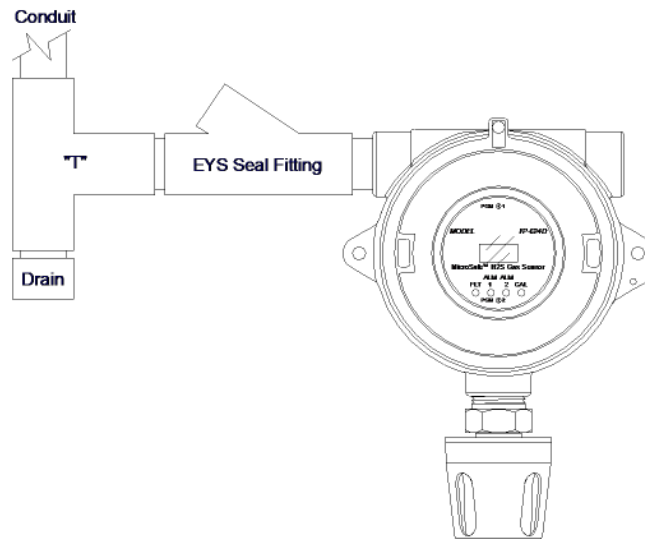
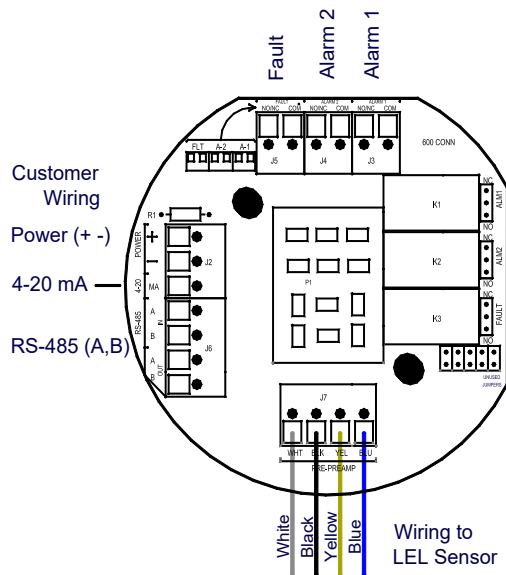

Figure 10 Typical Installation
Figure 11 Sensor Connector PCB
NOTE: In all installations the gas sensor should point straight down (refer to Figure 10). Improper sensor orientation may result in false readings and permanent sensor damage.
Proper electrical installation of the gas sensor is critical for conformance to Electrical Codes and to avoid damage due to water leakage. Refer to Figure 10 and Figure 11 for proper electrical installation.
NOTE: If a conduit run exits the secondary port, repeat the installation technique shown in Figure 10.
In Figure 10, the drain allows H₂O condensation inside the conduit run to safely drain away from the sensor assembly. The electrical seal fitting is required to meet the National Electrical Code per NEC Article 500-3d (or Canadian Electrical Code Handbook Part 1 Section 18-154). Requirements for locations of electrical seals are covered under NEC Article 501-5. Electrical seals also act as a secondary seal to prevent water from entering the wiring terminal enclosure. However, they are not designed to provide an absolute watertight seal, especially when used in the vertical orientation.
NOTE: For products utilizing the aluminum junction box option, the conduit seal shall be placed at the entry to the junction box (see Figure 10 as an example). For products utilizing the stainless steel junction box option, the conduit seal shall be placed within 18" of the enclosure. Crouse Hinds type EYS2, EYD2 or equivalent are suitable for this purpose.
- b) Observing correct polarity, terminate the field wiring (DC+, DC-, MA, A, and B) to the sensor assembly wiring in accordance with the detail shown in Figure 11.